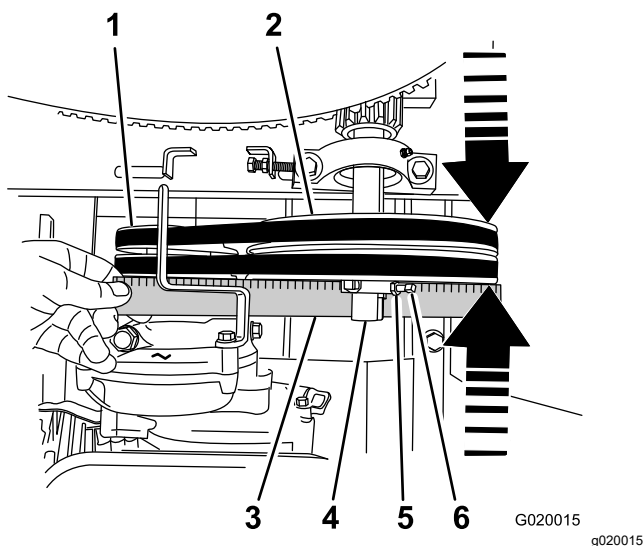

Figure 67
5. Place a straightedge across the face of the engine pulley and idler pulley (Figure 67).
- B. Loosen the locknuts and setscrews that secure the idler pulley to the idler shaft (Figure 67).
- C. Using a soft-face mallet, tap the idler pulley forward or backward along the idler shaft until the engine pulley and idler pulley are aligned to the straight edge (Figure 67).
- D. Tighten the set screws and locknuts that secure the idler pulley to the idler shaft (Figure 67).